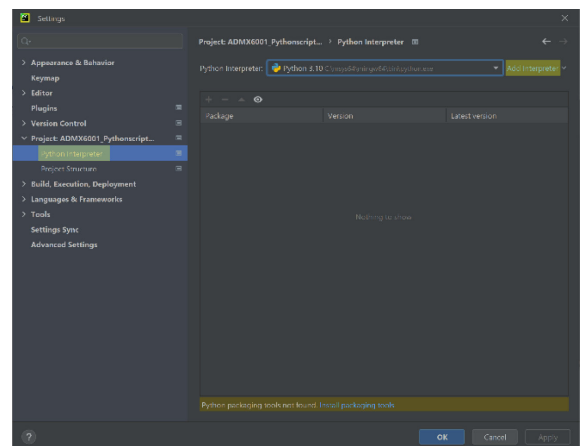

Figure 44. Create Venv by Adding a Local Interpreter
- Navigate to **File > Settings > Project > Python interpreter**, click **Add Interpreter > Add Local Interpreter** to create the venv, as shown in Figure 44.